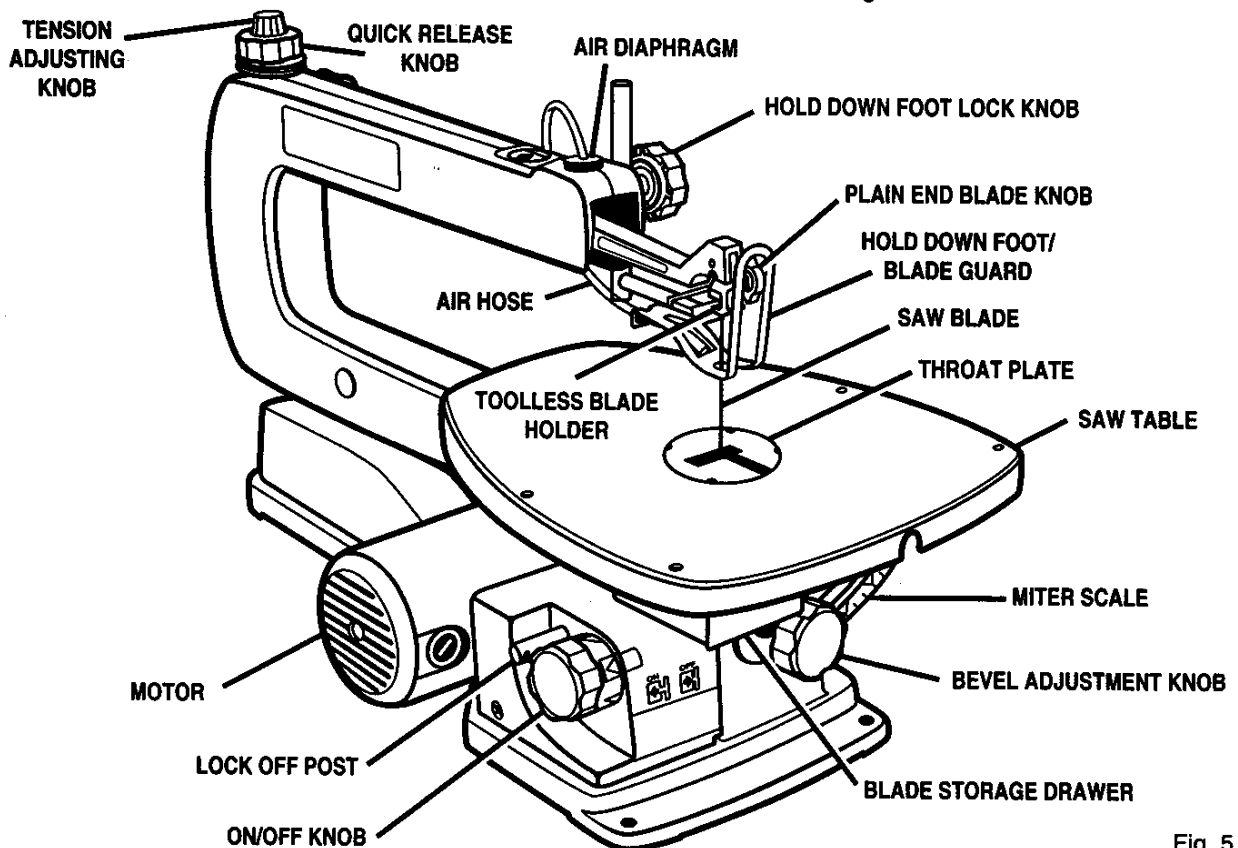

Fig. 5
Before attempting to use your saw, familiarize yourself with all operating features and safety requirements of your Sears Craftsman scroll saw. See Figure 5.
- On the top back of the saw, rotate the quick release knob to the left or counterclockwise to loosen blade tension. *See Figure 5.*